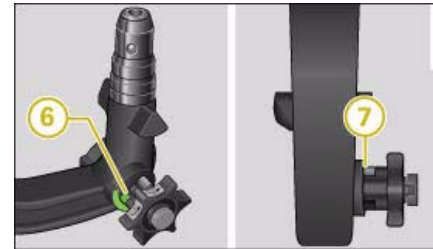

Fig. 241 Removable towing bracket: Safety check
- Check that the green marking (6) ⇒ fig. 241 on the knob is inside the green zone on the ball joint.
- Check that the knob is directly against the ball joint, so that there is no gap (7) between the knob and the ball joint.